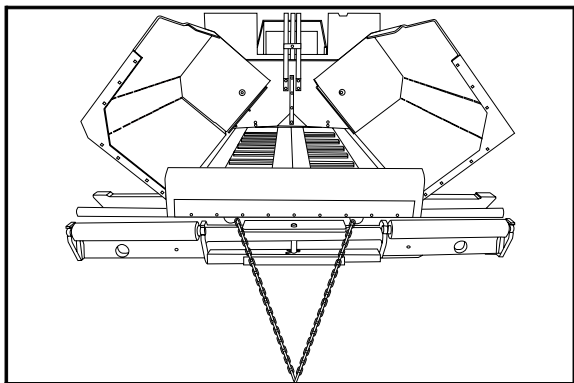

Figure 47. Attaching chain for towing
- 5) Run the chain through the holes shown. (Figure 47)